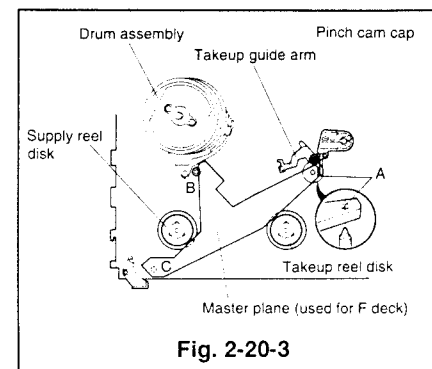
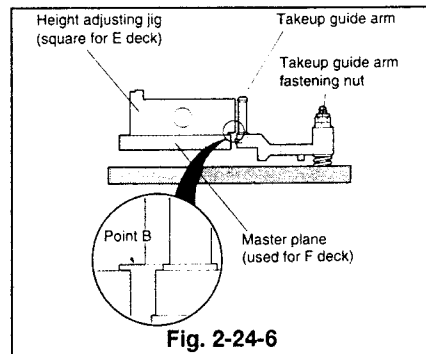

Fig. 2-20-3
Fig. 2-24-6
- ③ Install the height adjusting jig [master plane](used for F deck: Part No.859C342020) in the specified position. (Insert the jig into hole A, shown in Fig. 2-20-3, so that the jig sets on part B and the end of part C. Take care that the jig does not touch the supply and takeup reel disks.)
- ① Install the supply reel disk on the shaft.
- ② Install the height adjusting jig [master plane](used for F deck: Part No.859C342020) in the specified position. (Insert the jig into the hole A shown in Fig. 2-20-3 so that the jig sets on part B and the end of part C. Take care that the jig does not touch the supply and takeup reel disks.)
- ① Place the height adjusting jig (for the F deck) in the reference position on the main plate (Refer to Fig. 2-20-3). Tighten the takeup guide arm fastening nut so that the lower flange of the takeup guide arm is level with point B of the height adjusting jig (for the E deck). (Refer to Fig. 2-24-6).